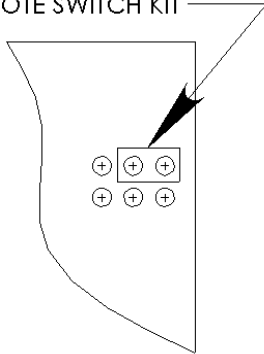

Figure 1
See figure 1, 2, and 3 for proper jumper installation.
- When the jumper is in the on position, the control board is setup to operate using the DEMA optional remote kit (See Figure 1).
JUMPER (SEE FIGURE 1 AND 2)